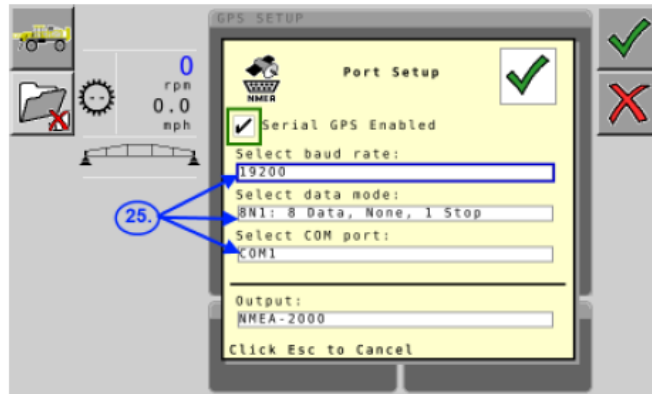

Figure 24.
25. Ensure *Enable Serial GPS* is selected. Then, set: *Baud Rate = 19200*; *Data Mode = 8N1*; *COM Port = COM 1* as shown in {Figure 24}